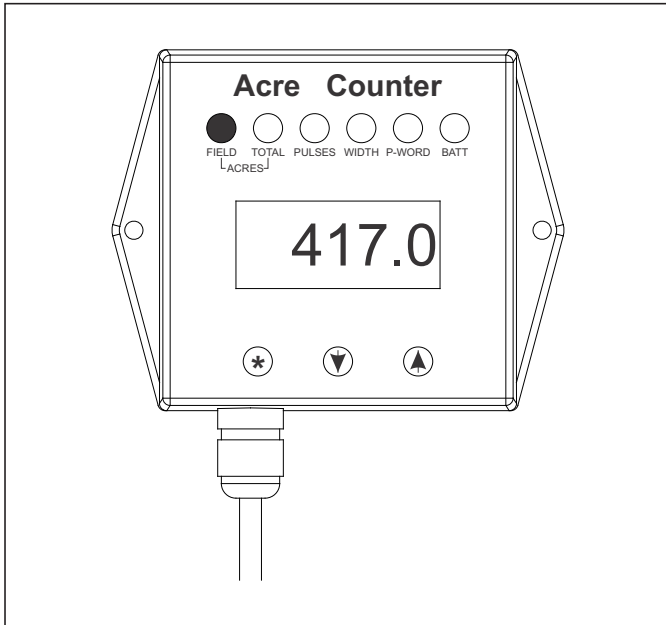

Figure 4-46: Field Acres Display
1. Press the FUNC button until the “**FIELD**” LED is lit. The digits indicate the acres covered since the field acre counter was cleared See Figure 4-46.